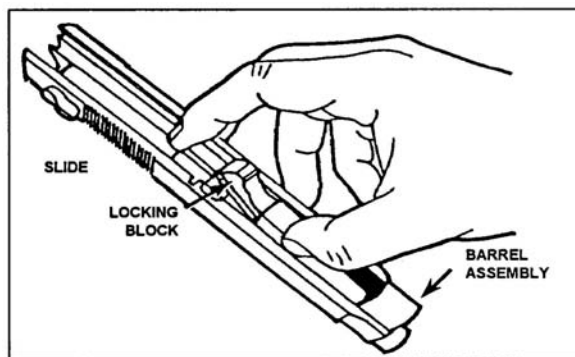

Figure 071-004-0001-5. Insertion of the barrel assembly
6. Assemble the pistol (figure 071-004-0001-5).